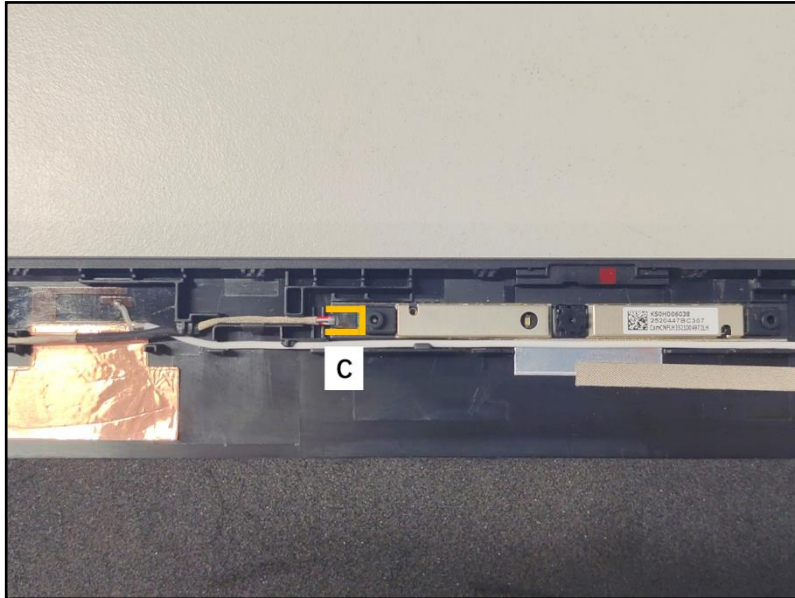

Figure 3-56. Camera Module Removal
2. Disconnect the eDP cable from the camera module connector (C) (Figure 3-56).